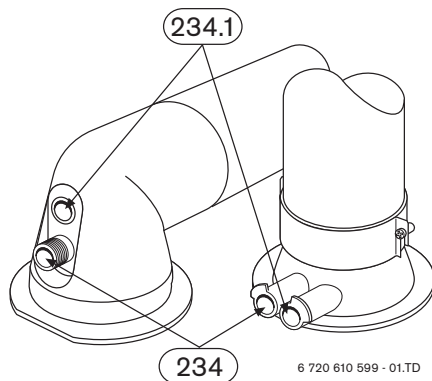

Fig. 45
- ▶ Remove sealing plug from combustion air testing point (234.1, fig. 45).
- ▶ Remove sealing plug from flue gas testing point (234, fig. 45).